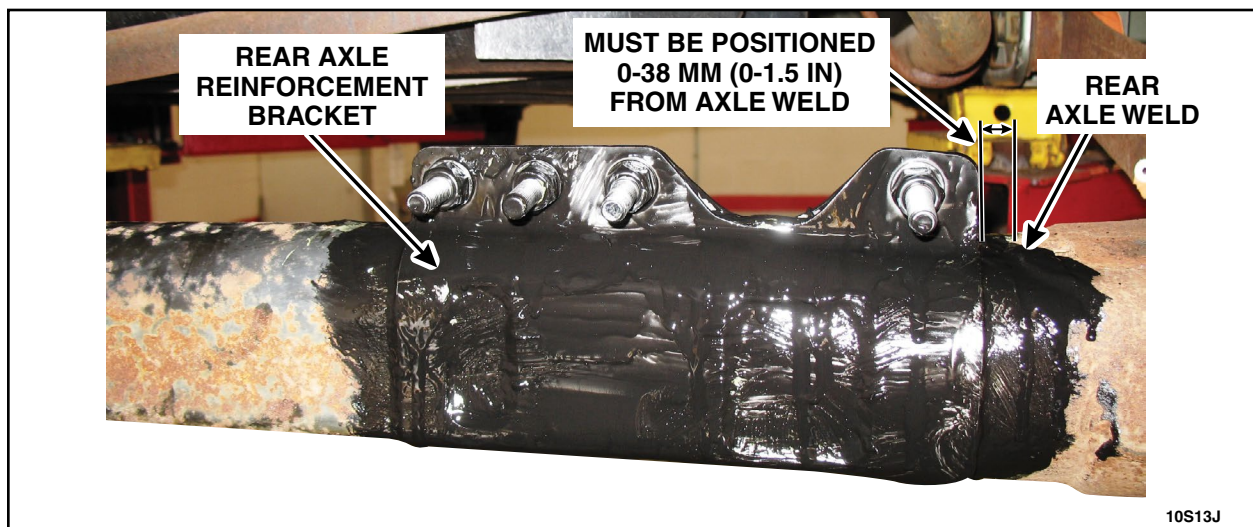

FIGURE 1
1. Inspect and verify both rear axle reinforcement brackets are positioned within 0 to 38 mm (0 to 1.5 in) from the top of the rear axle weld on each side of the axle. Inspect for evidence that adhesive was used during rear axle reinforcement bracket installation. See Figures 1 and 2.